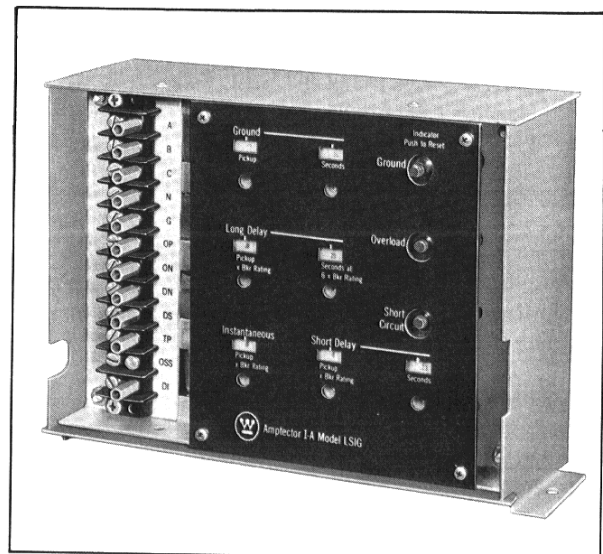
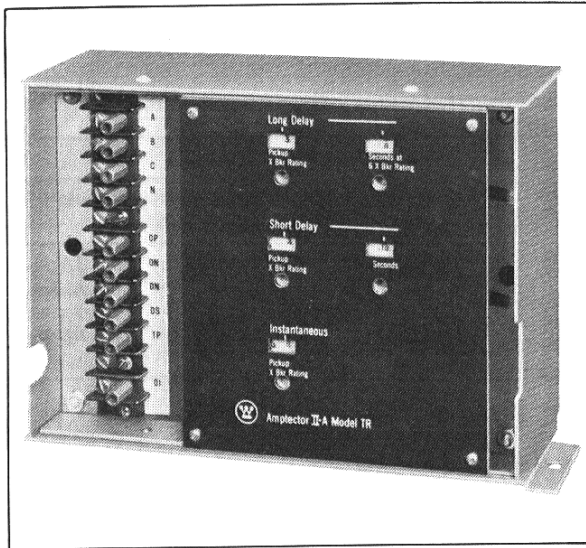

Fig. 2 Amprector IA
Fig. 3 Amptector IIA
There are a maximum of seven (7) adjustable controls on the Amptector IA and five (5) on Amptector IIA, each can be adjusted with a screwdriver through openings in the front face plate, Fig. 2 and Fig. 3.